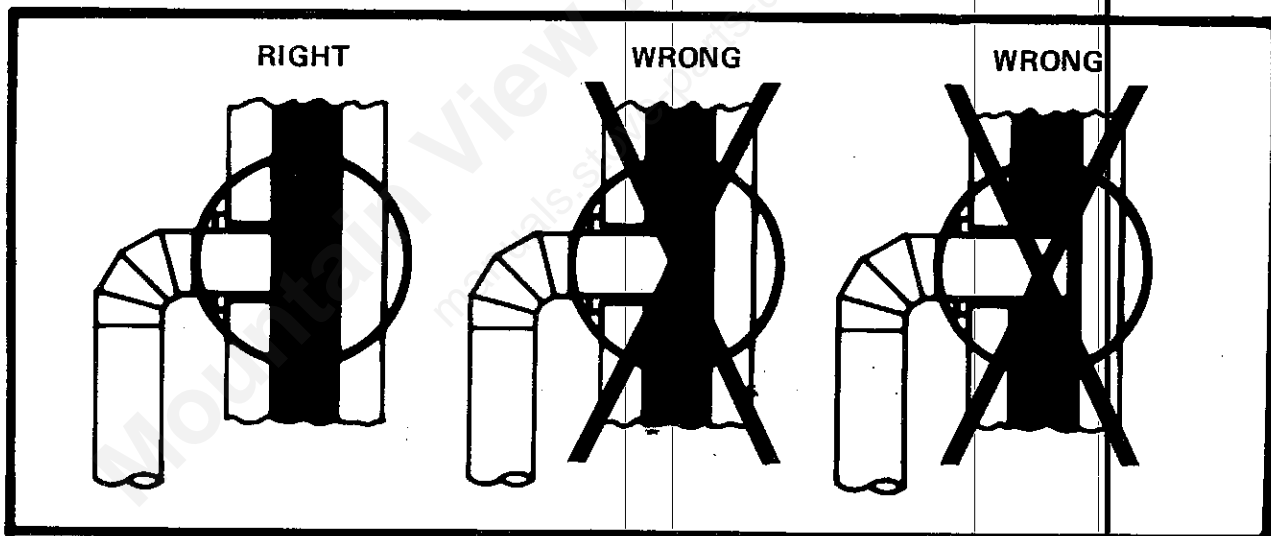

FIG. 10
4. The pipe cannot extend into the chimney flue (Fig. 10).
1. The connector pipe may be pushed into the chimney too far, stopping the draft (Fig. 10).